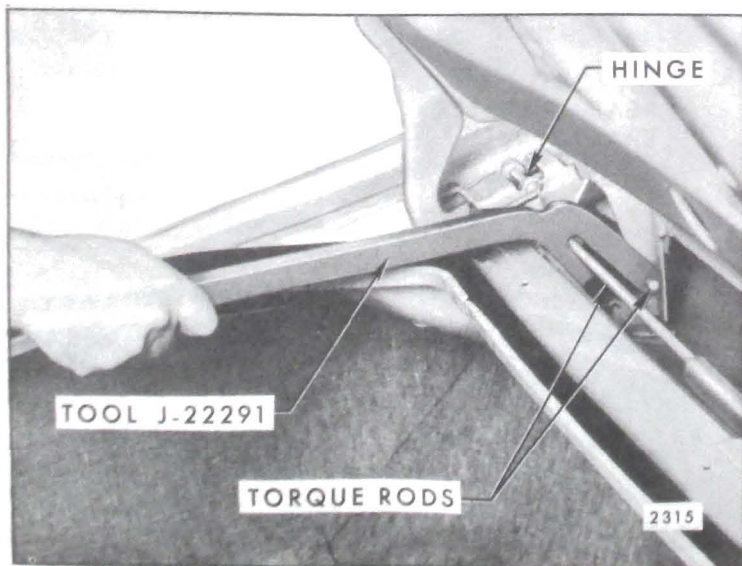
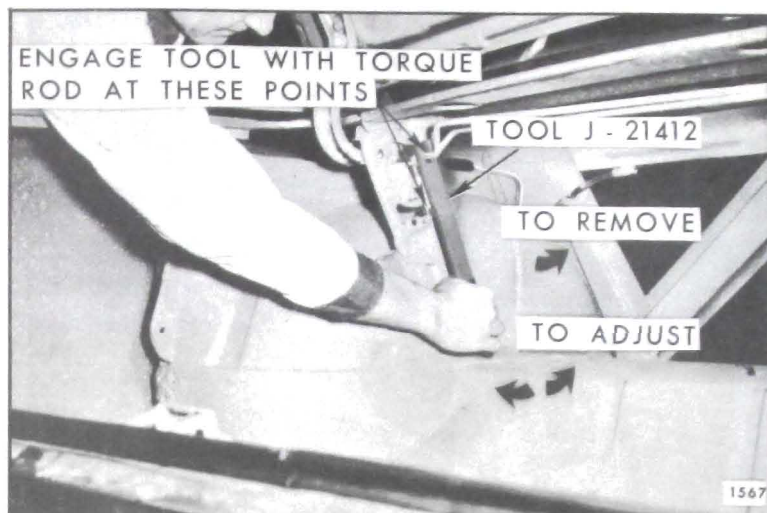
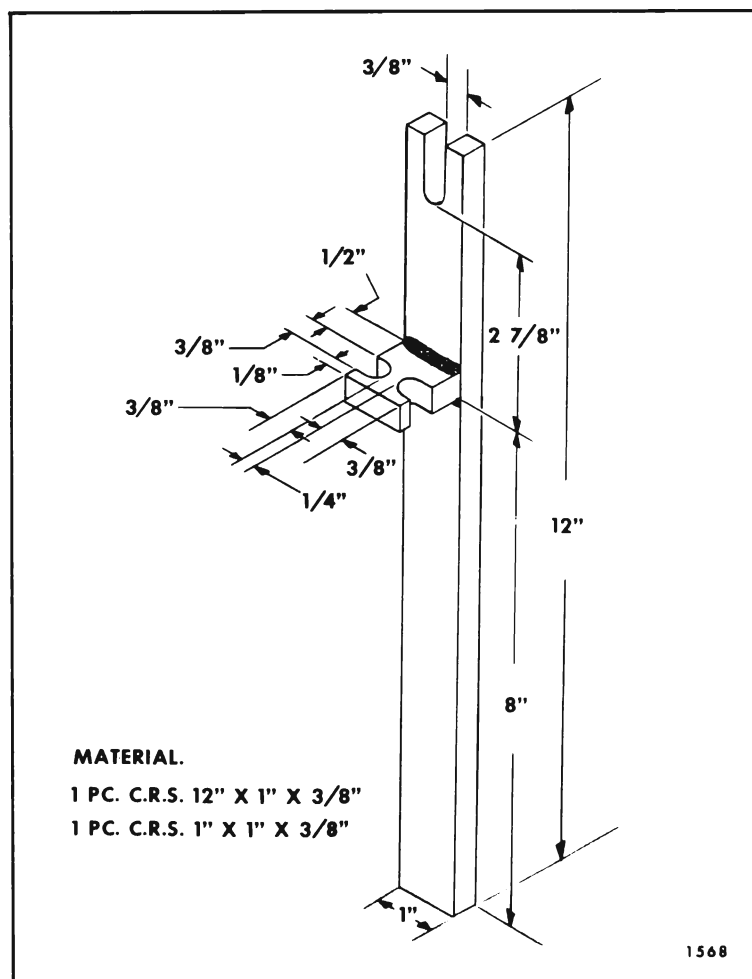
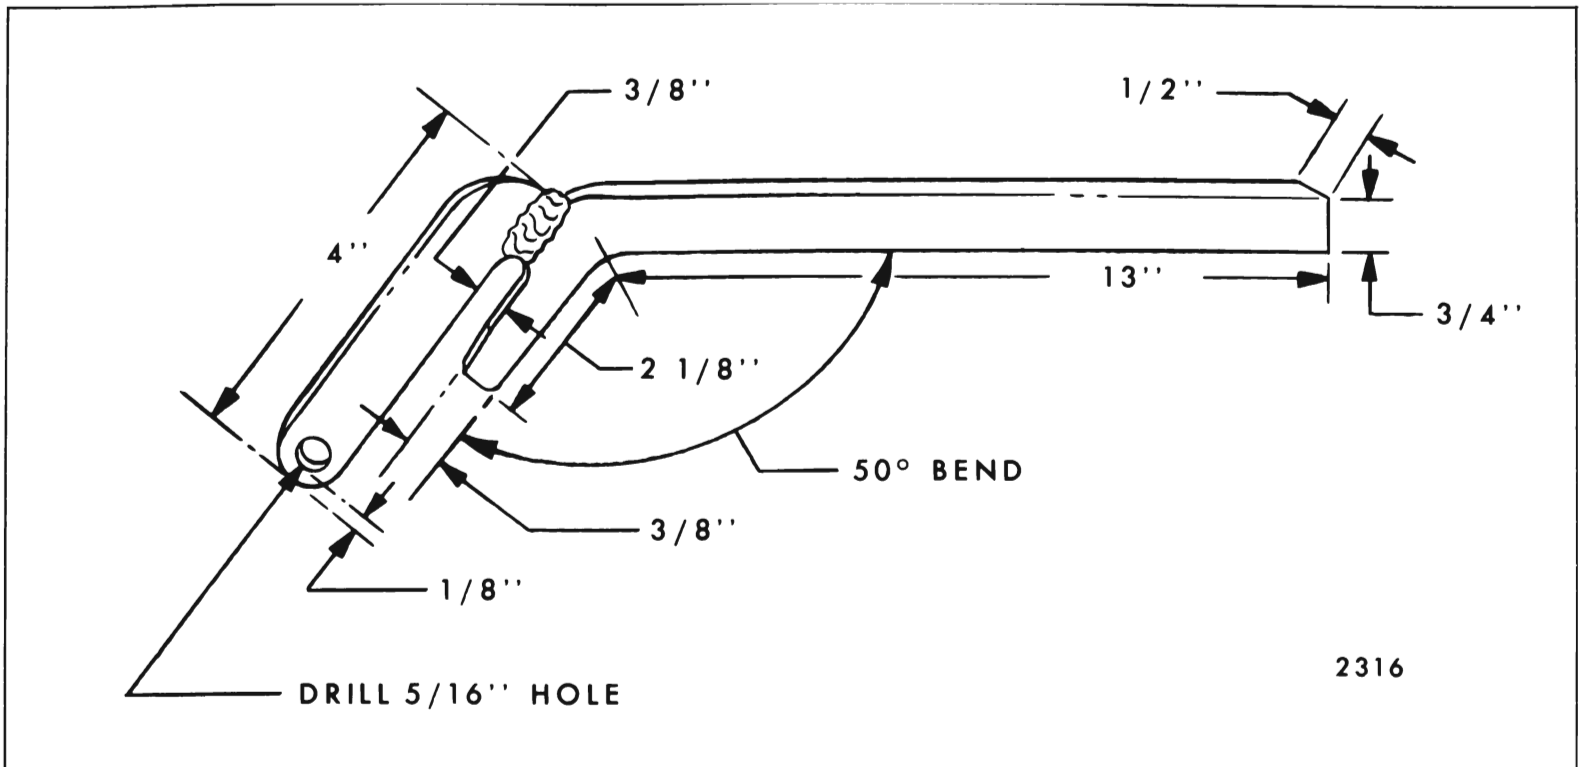

Fig. 9-8—Usage Of Tool J-22291
Fig. 9-7—Rear Compartment Torque Rod Adjustments
Fig. 9-9—Rear Compartment Torque Rod Adjusting Tool
Fig. 9-10—Tool J-22291 "E" Body Torque Rod Adjusting Tool
4. Disengage torque rod from notched retainer on inboard face of opposite side hinge box. On "B & C" Styles use 1/2" I.D. pipe; on "A & X" Styles use tool J-21412 as shown in Figure 9-7. On "E" Styles, first remove rear compartment front panel, then disengage rod using tool J-22291 as shown in Figure 9-8.
On "B & C" Styles adjust rod with a length of 1/2" I.D. pipe. On "A & X" Styles use tool J-21412 as shown in Figure 9-7. If tool is not available, fabricate equivalent as shown in Figure 9-9. On "E" Styles use tool J-22291 as shown in Figure 9-8. If tool J-22291 is not available, fabricate equivalent as shown in Figure 9-10.